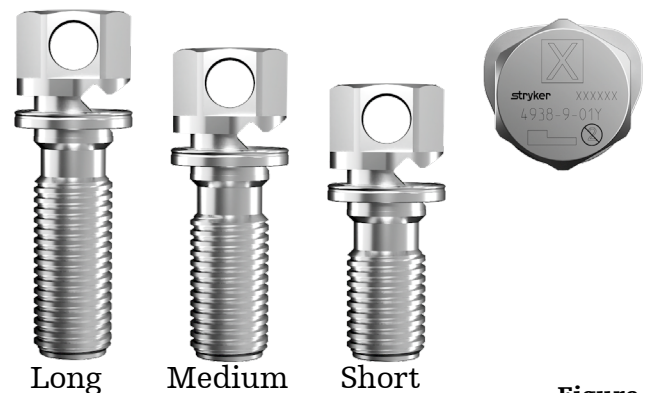

Figure 55
- The wide side of the flange of the wire bolt head (**Figure 55**) indicates the location of the wire slot